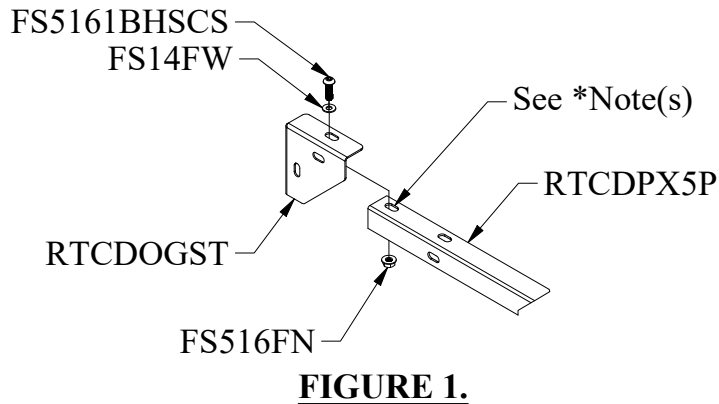

FIGURE 1.
- 1.) Install RTCDOGST to RTCDPX5P as shown in FIGURE 1.(Both Ends)